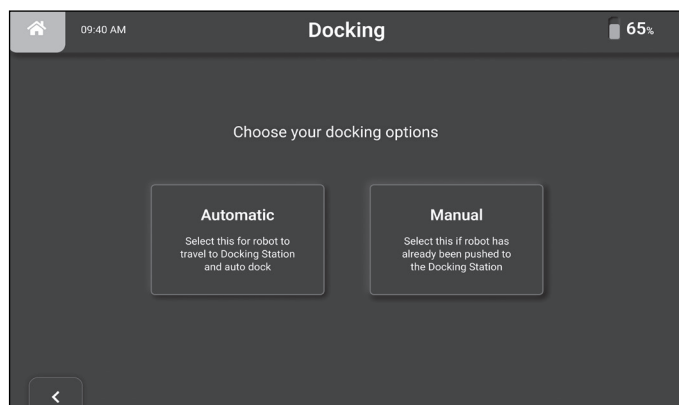

Figure 61
3. Select the preferred method of docking robot via Automatic or Manual Mode (Fig. 61).
- Select the 'Manual' option to dock the machine (**Fig. 61**).